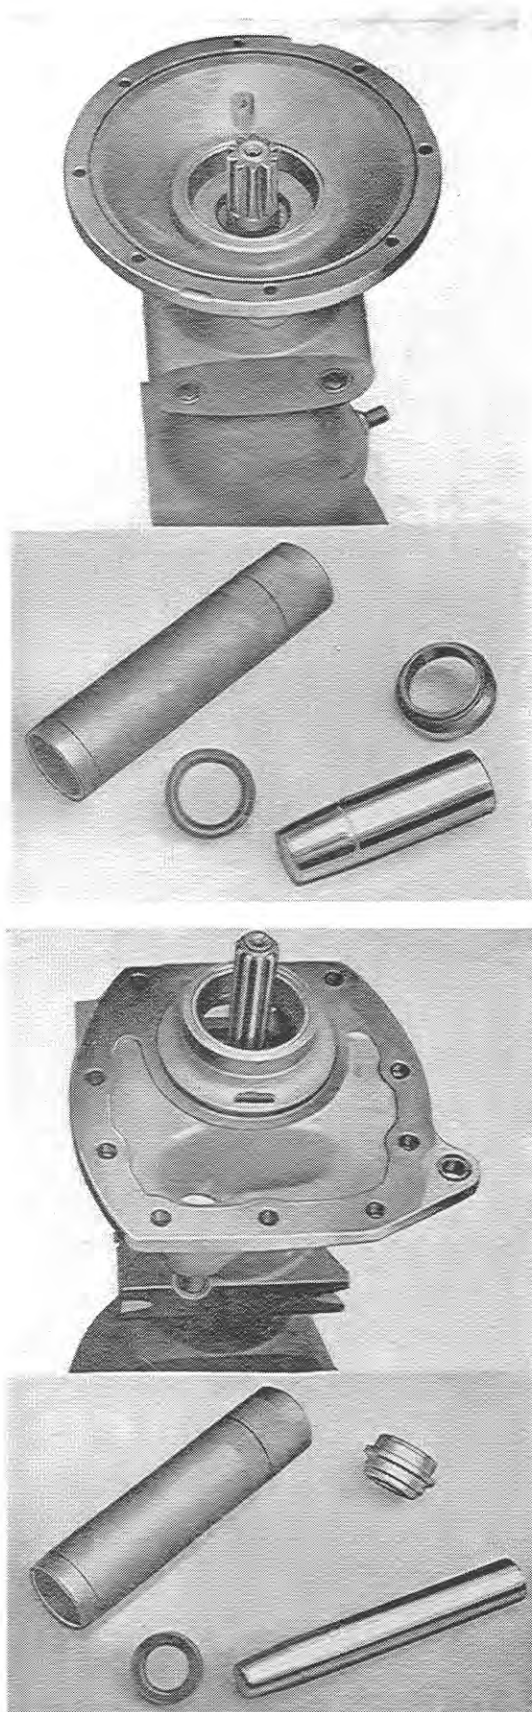

Fig. 5
- 3) If necessary, fit the oil seals in the axle housing by means of the special tool MIBO, the hollow handle MIGA and the protecting sleeve MIBU for the reduction housing side (Fig. 5), and by means of the special tool MIFU-A, the hollow handle MIGA and the protecting sleeve MICI for the seal on the differential side (Fig. 6).